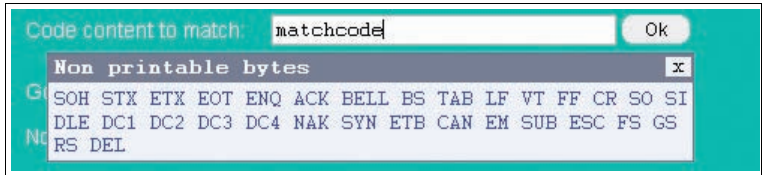

Figure 7.8 Tooltip matchcode
- **Comparison code:** The comparison code is entered here. When the mouse is moved over the comparison code input window, the popup menu containing the nonprinting characters appears → see Figure 7.8 on page 29.